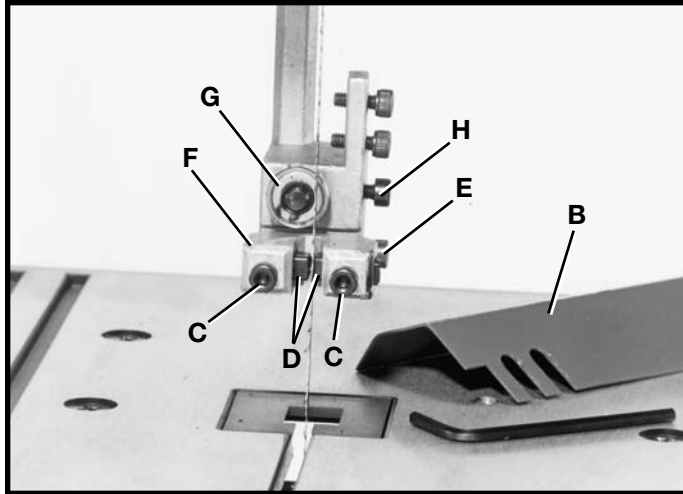
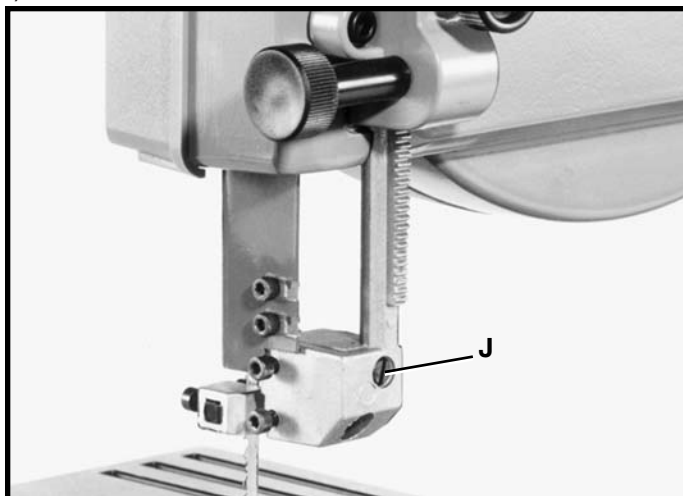

Fig. 27
Fig. 28
2. **NOTE:** Upper blade guard (B) Fig. 27, is shown removed for clarity.
3. Loosen the two screws (C) Fig. 27, and adjust the blade guides (D) as close as possible to the sides of the saw blade, being careful not to pinch the blade. Then tighten the two screws (C).
4. Loosen screw (E) Fig. 27, and move the guide bracket (F) in or out until the front edge of the guides (D) is just behind the "gullets" of the blade teeth. Then tighten screw (E).
5. The upper blade support/thrust bearing (G) Fig. 27, prevents the saw blade from being pushed back too far when cutting. The support bearing (G) should be adjusted approximately 1/32" behind the rear edge of the blade, so the back edge of the blade overlaps the outside diameter of the ball bearing by approximately 1/8". To adjust, proceed as follows:
7. Loosen screw (H) Fig. 27, and slide support bearing (G) in or out until it is approximately 1/32" behind the rear edge of the saw blade. Then tighten screw (H).
8. The upper blade support bearing (G) Fig. 27, is set on an eccentric shaft. To change position of bearing (G), loosen screw (H) Fig. 27, and using a straight screwdriver, rotate shaft (J) Fig. 28, until the blade properly overlaps the support bearing. Then tighten screw (H).